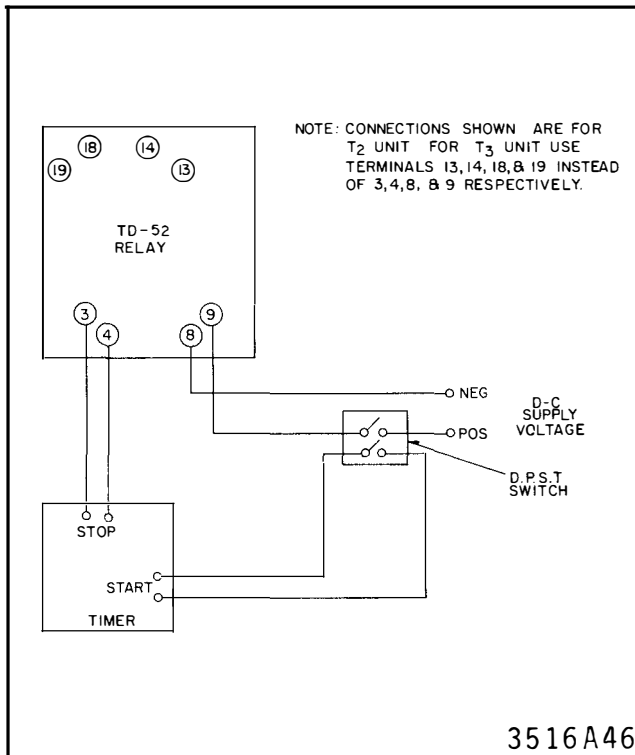

Fig. 5. Test Circuits for Type TD-52 Relay.
The first time delay, as measured with the test circuit shown in Figure 5 taken at 25°C. and rated voltage, will be within four milliseconds of its setting for settings of 0.2 seconds or less. For settings above 0.2 seconds, this accuracy will be $\pm 2\%$.
A timing check at minimum and maximum settings is recommended to insure that the relay is in proper working order. A recommended test circuit is shown in Figure 5.
2. Check the reference voltage circuit. This is done by measuring the dc voltage across the silicon power regulator, Z. Connect the dc voltmeter positive terminal to the rear terminal of R_5 and the negative terminal to relay terminal 8 or 18. Apply rated voltage per the test circuit diagram, Figure 5. The Zener voltage should be between 11.0 and 13.0 volts for 24/32 volt relays, between 21.5 and 24.5 volts for 48/125 volt relays, and between 50 and 58 volts for 250 volt relays.